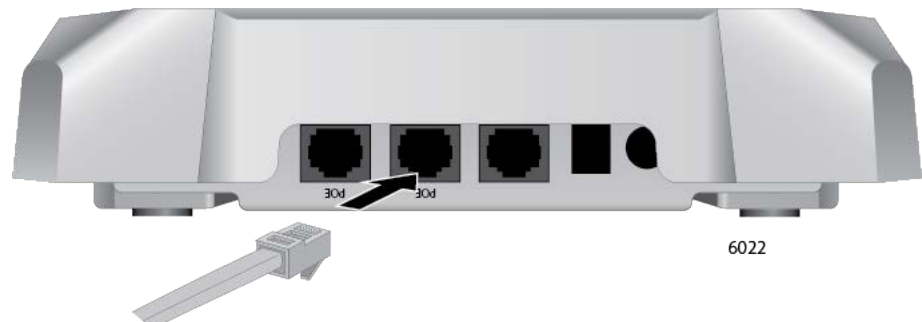

Figure 22. Connecting an Ethernet Cable to the LAN1 Port
1. To cable LAN1 port, connect an Ethernet cable into the port. The cable requirements are in “Cable Requirements” on page 26. Refer to Figure 22.